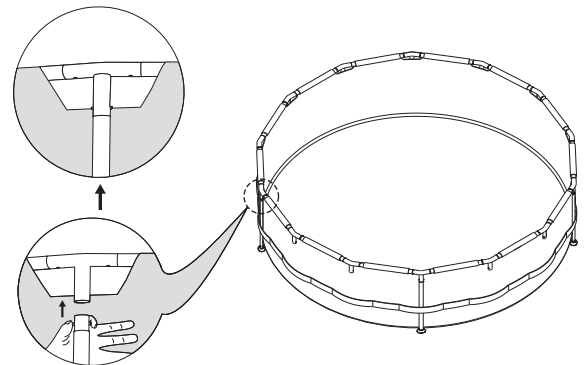

Figure 9
14. Look through the hole at the bottom of the T-fitting, as you insert the Vertical Leg ③ with Leg Cap ⑥, rotate it until the buttons align with the holes and pop out, locking the Vertical Leg in place (see Figure 9). Do this for all Vertical Legs.